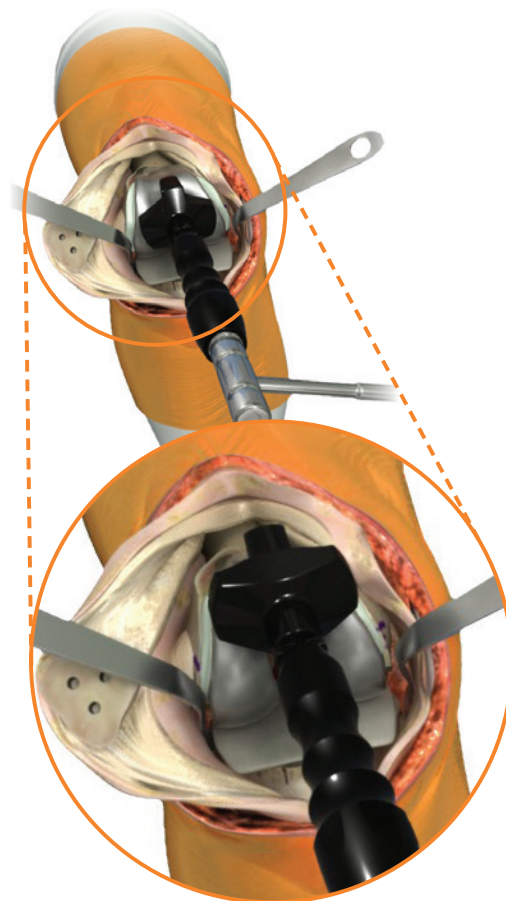

Figure 26c
5. Place the Femoral Implant onto the femur and use the Modular Femoral Impactor to fully seat the implant. Remove excess cement. Extend the knee to remove cement anteriorly without retracting the proximal soft tissue (Figure 26c).